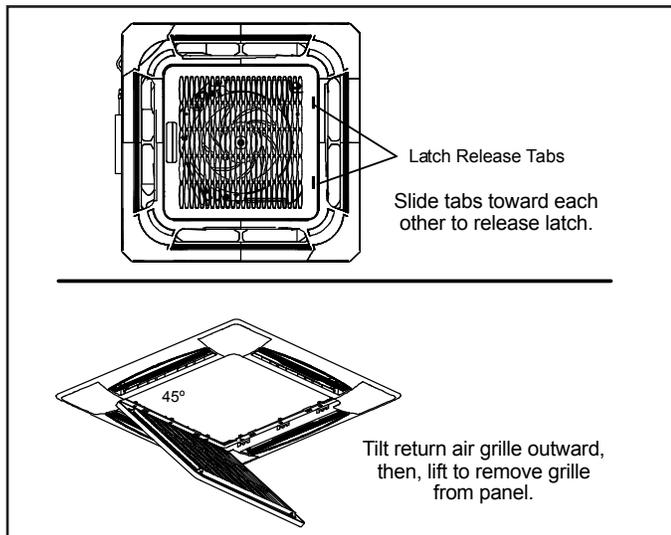

Figure 22. Remove Return Air Grille
2. Slide the two grille latches toward each other at the same time to release the grille. See Figure 22. Tilt the return air grille outward at a 45° angle (grille is held in place by tethers). Release the tethers and lift the grille away from the panel. Carefully place the return air grille off to the side.